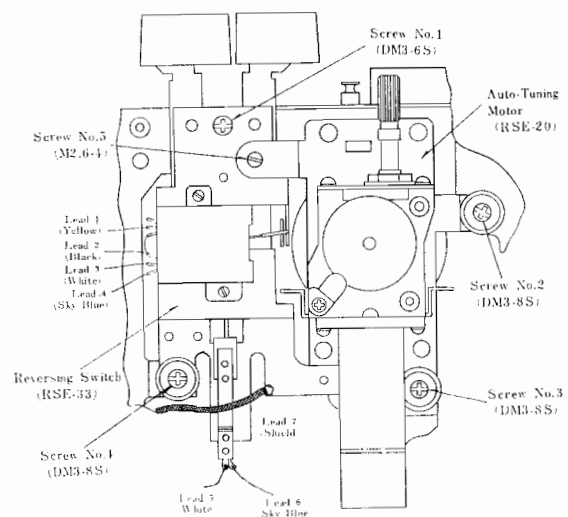

Fig. 3
1. Unsolder leads, ①, ③, ⑤, ⑥, ⑦, as illustrated in Fig. 3.
3. Remove four (4) motor & reversing switch mounting screws, Nos. 1~4, as illustrated in Fig. 3.
6. Unsolder leads, ②, ④, as illustrated in Fig. 3.
7. Remove the motor & auto-tuning switch mounting screw, No. 5, as illustrated in Fig. 3.